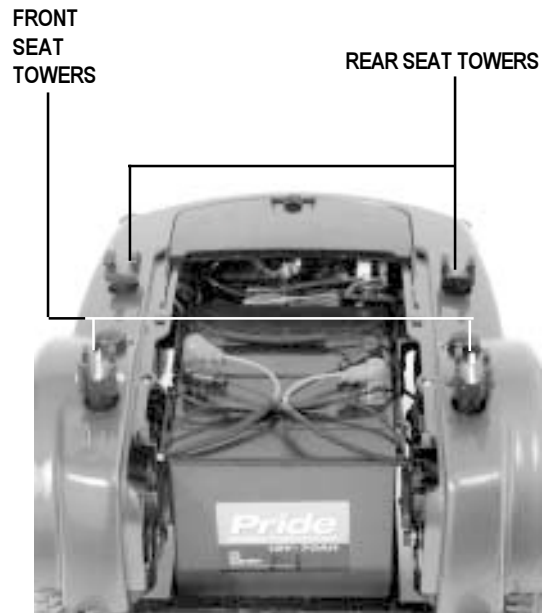

Figure 12. Seat Towers
1. Set the seat on the rear seat towers. See figure 12.
2. Push the seat back and down until the latches engage on the front seat towers. See figure 12.